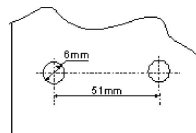

Fig 5
1. Drill two identical holes in the wall observing the dimensions indicated in figure 5.